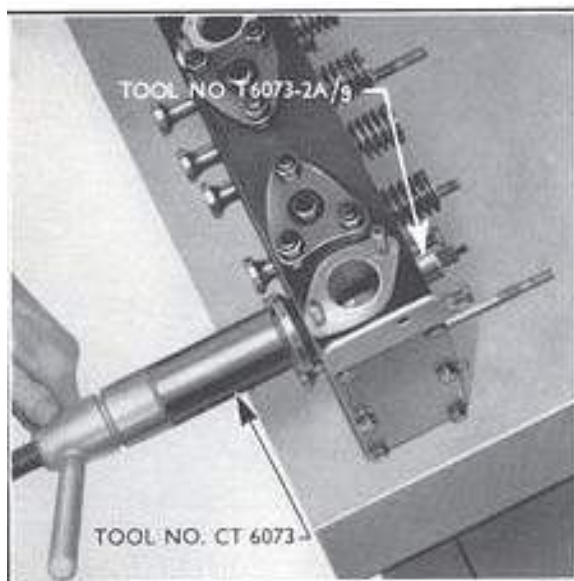

Fig. 6
On engines produced before tractor engine No. 1473070 the vertical location of the guide was determined by a machined stop on the outer diameter of the guide. After engine No. 1473070 the valve guides were manufactured with a parallel O.D. and to ensure the correct guide protrusion of 0.384 in. (14.83 mm.) to 0.594 in. (15.09 mm.) a replacer stop T.6073-2A g is used in conjunction with the main tool CT.6073 to replace the guides (see Fig. 6).
3. Turn the wing nut to pull the guide into the head (see Fig. 6), and continue until the replacer stop T.6073-2A g is tight against the cylinder head.